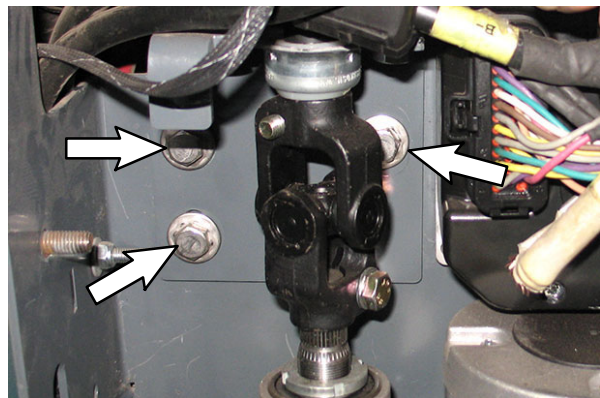

FIG. 27
28. Use three SEMS M8 hex screws (8) to install the steering shaft bearing bracket assembly (7) onto the steering support channel. Do not completely tighten hardware. Hardware is tightened during later adjustment. (Fig. 27)